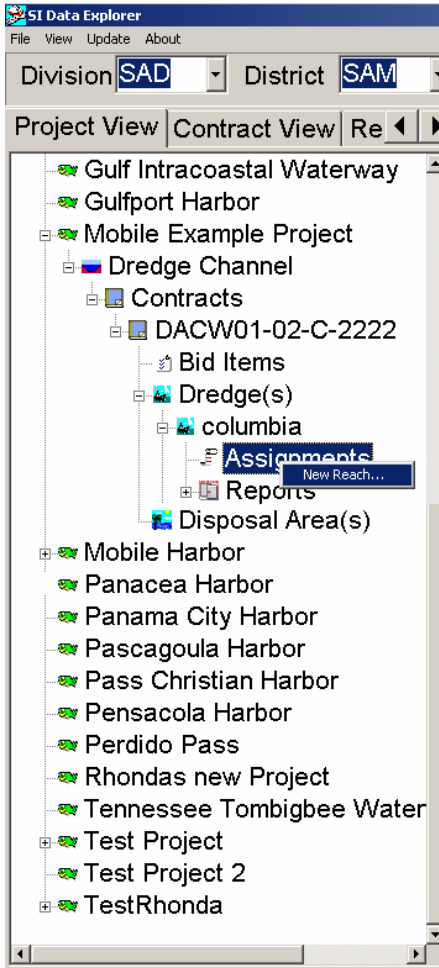

Figure 1.25 Right click on assignment to create a new reach
1. Right click on **Assignment** in the project view located under the dredge (See Figure 1.25) and select **New Reach**.